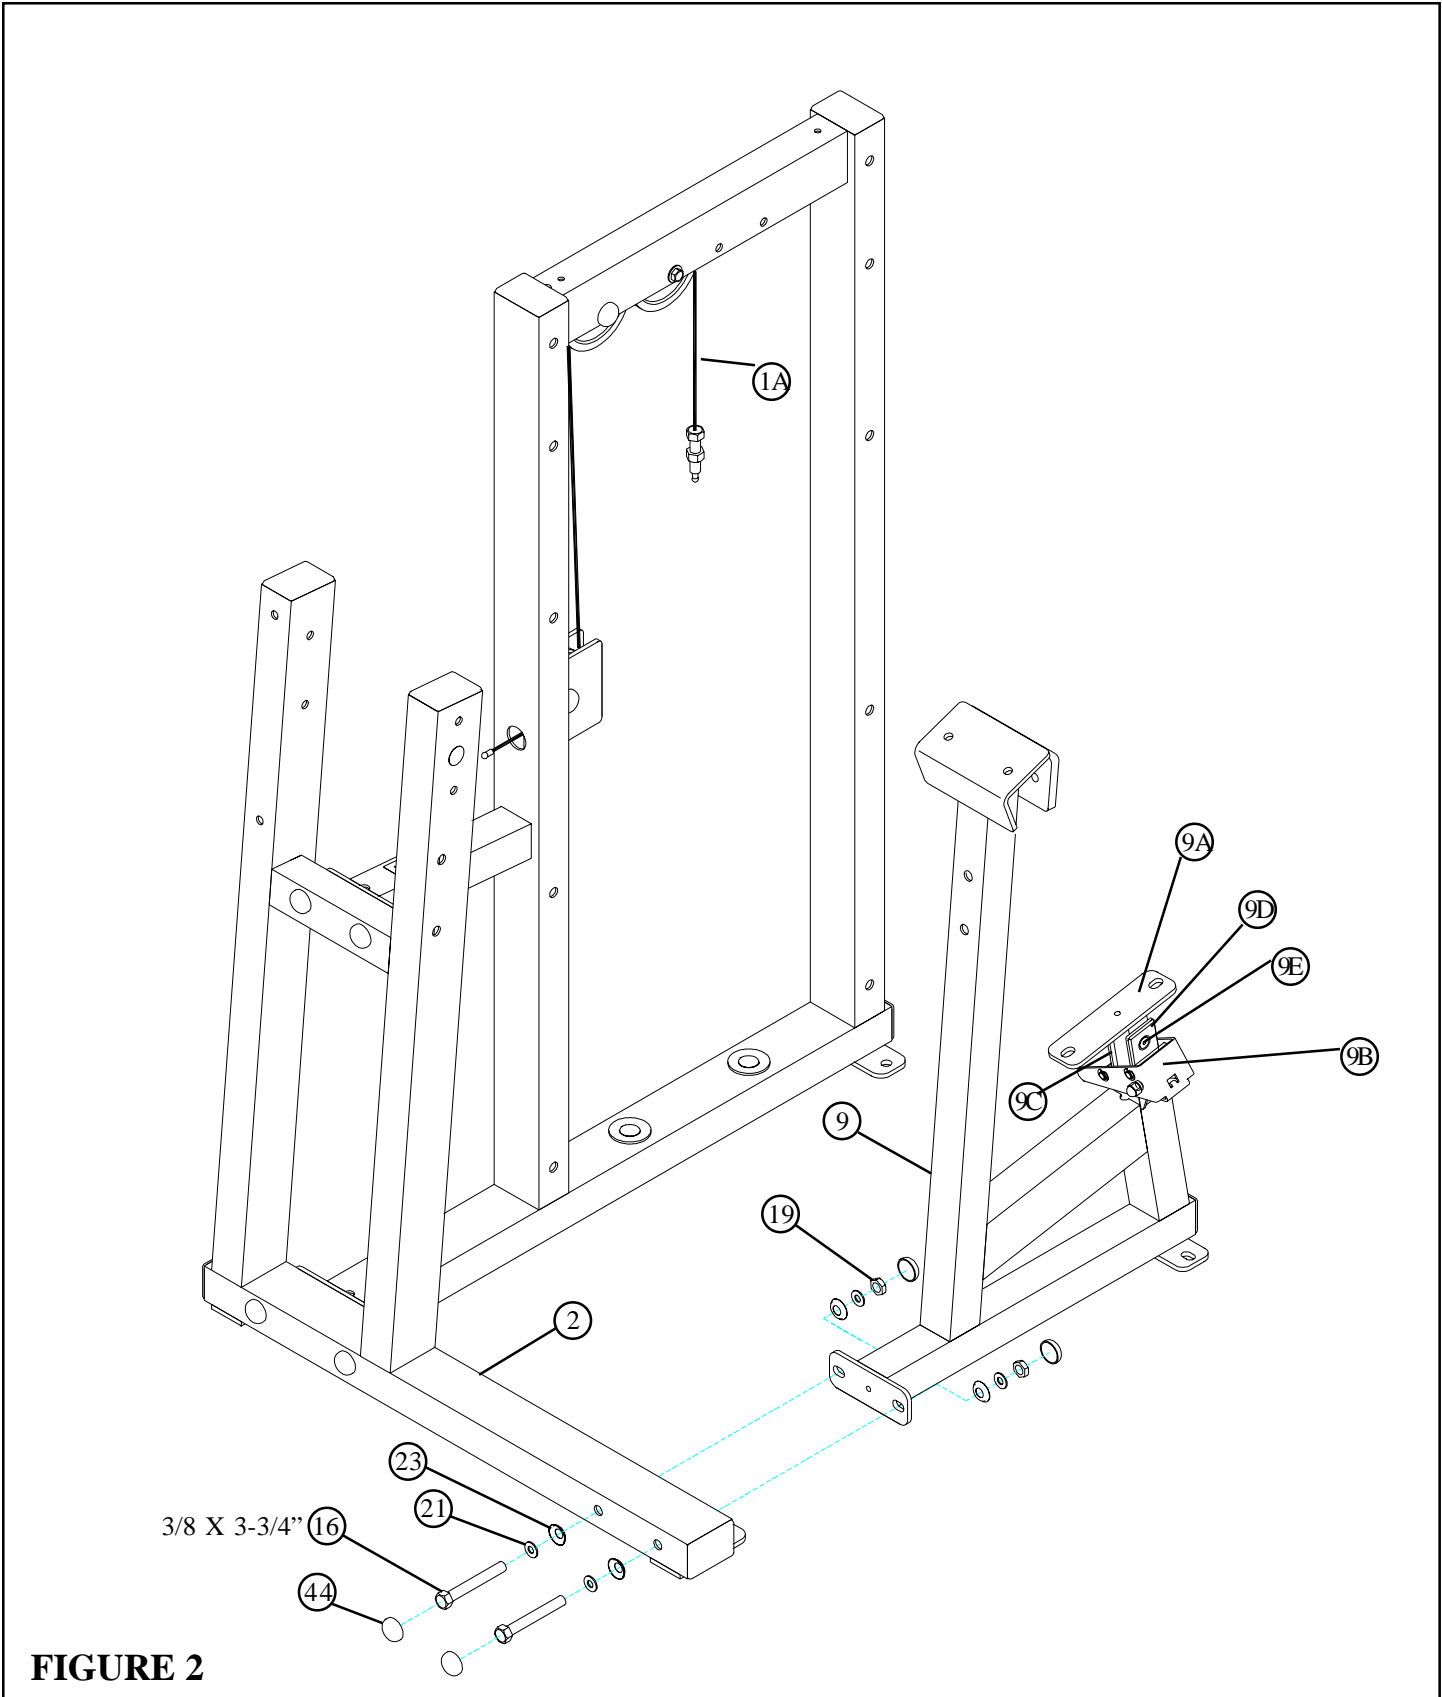

FIGURE 2
- **LOOSELY** assemble the SEAT FRAME (9) to the ARM SUPPORT (2) using four RH CAPS (44), two 3/8 X 3-3/4" BOLTS (16), four 3/8" SAE WASHERS (21), four 3/8" RH WASHERS (23), and two 3/8" LOW HEIGHT LOCK NUTS (19) as shown in FIGURE 2.